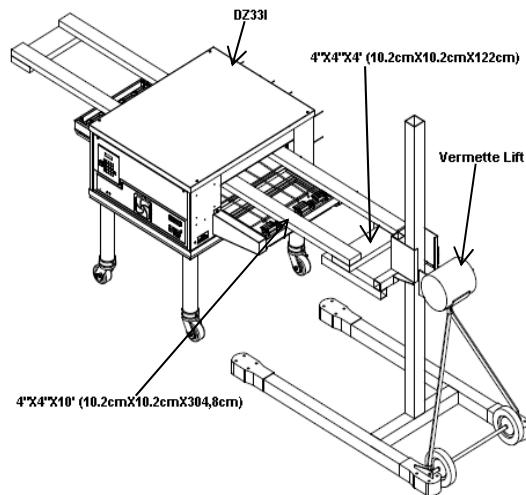

Figure 2-2
3. Slide the two 4"X4"X10' (10.2cm X 10.2cm X 304.8cm) pieces of wood through the oven cavity. The wood pieces should be sticking out of the oven equally on both sides. One of the pieces of wood should be placed to the rear of the oven and the other in the front of the oven. See figure 2-2.
4. Position the two Vermette lifts on either ends of the oven under the 10' (304.8cm) pieces of wood, making sure the legs with wheels are up as close as possible to the skid. Place the two 4"X4"X4' (10.2cm X 10.2cm X 122cm) pieces of wood across the two Vermette forks, at least 6" (15.24cm) in from the end of the forks, and centered with the 10' (304.8cm) pieces of wood running through the oven cavity. See figure 2-2.
4. Position the two Vermette lifts on either ends of the oven under the 10' (304.8cm) pieces of wood, making sure the legs with wheels are up as close as possible to the skid. Place the two 4"X4"X4' (10.2cm X 10.2cm X 122cm) pieces of wood across the two Vermette lift forks, at least 6" (15.24cm) in from the end of the forks, and centered with the 10' (304.8cm) pieces of wood running through the oven cavity. (figure 2-2)